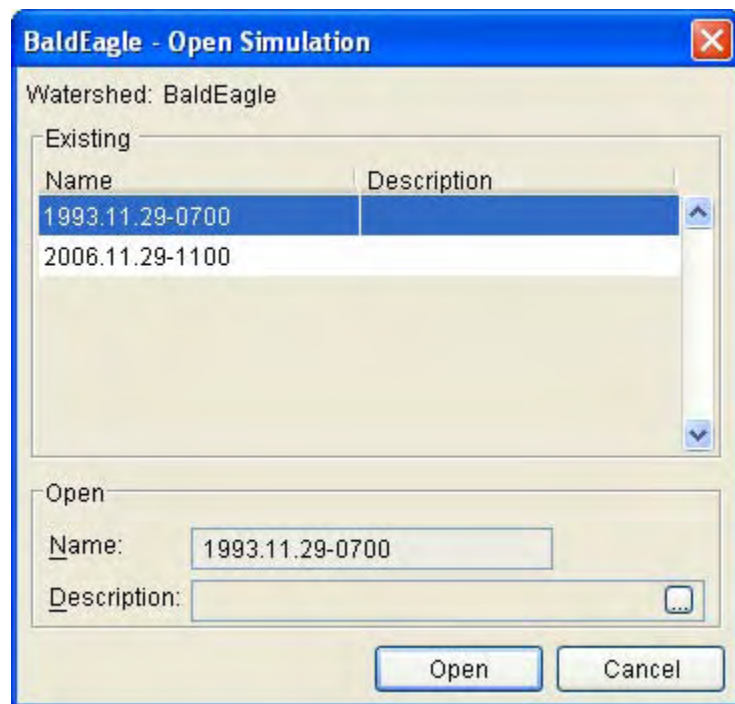

Figure 14.15 Open Simulation
2. The **Open Simulation** dialog box will open (Figure 14.15).